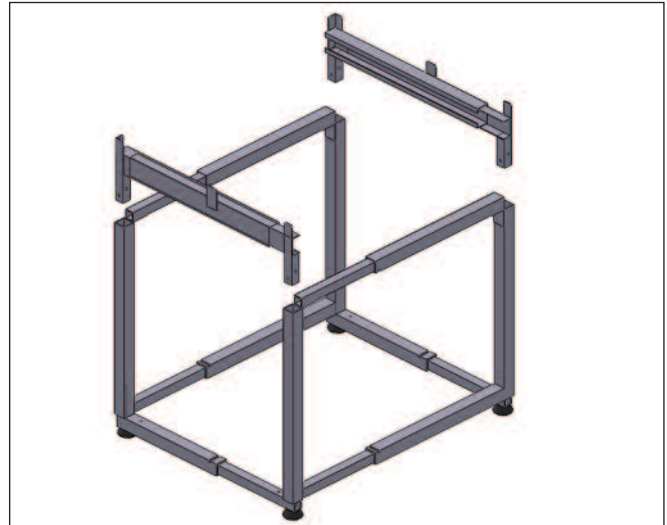
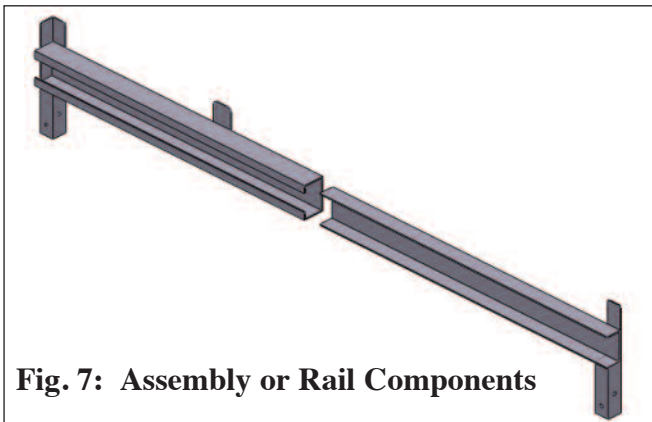

Fig. 6: Rail Component to Side Frame Assembly
Fig. 7: Assembly of Rail Components
5. Assemble the Rail Components to the frame assembly as shown in Figure 6. The Rail Components will insert and assembled together (A to B and C to D) as shown in Fig. 7. Ensure the open side of rail components face inward of the assembly
7. Use (4) Retaining Clips Style A to lock the Leg Component assemblies as shown in Figure 7.